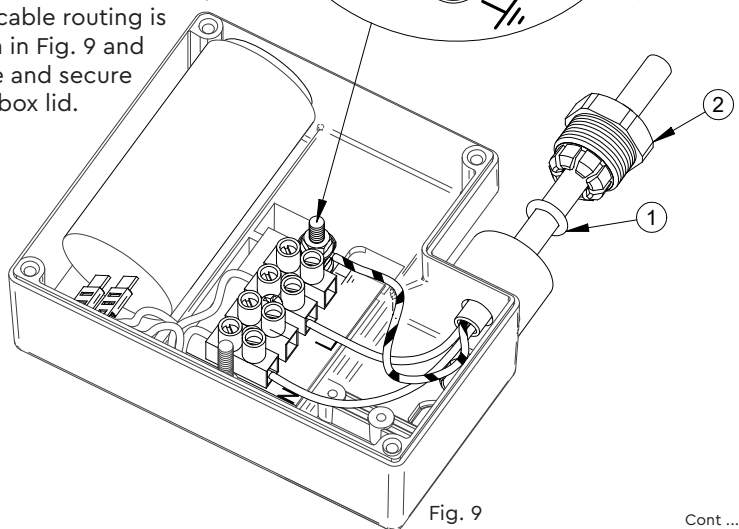

Fig. 9
The cable gland assembly Fig. 9 (items 1 & 2) provides the necessary protection against ingress of solid objects and moisture as well as providing cable retention.
3. Disassemble cable gland as shown in Fig. 9 and insert cable into position ensuring 'O'-ring (item 1) is placed over the cable before the clamping insert (item 2) is tightened.
7. Confirm cable routing is as shown in Fig. 9 and assemble and secure terminal box lid.